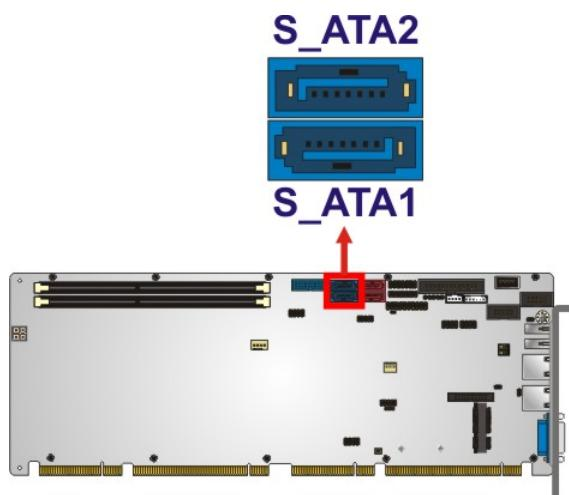

Figure 3-20: SATA 6Gb/s Drive Connector Location
**CN Location:** See Figure 3-20